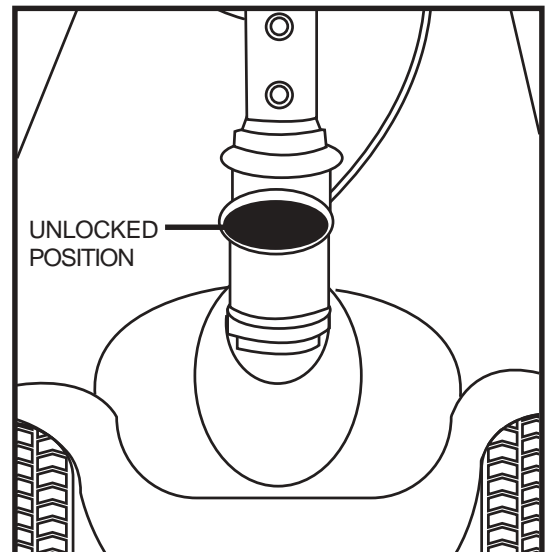

Figure 23. Tiller Lock Knob (Unlocked)
6. Unlock the front wheel by turning the tiller lock knob 90° counterclockwise. **See figure 23.**